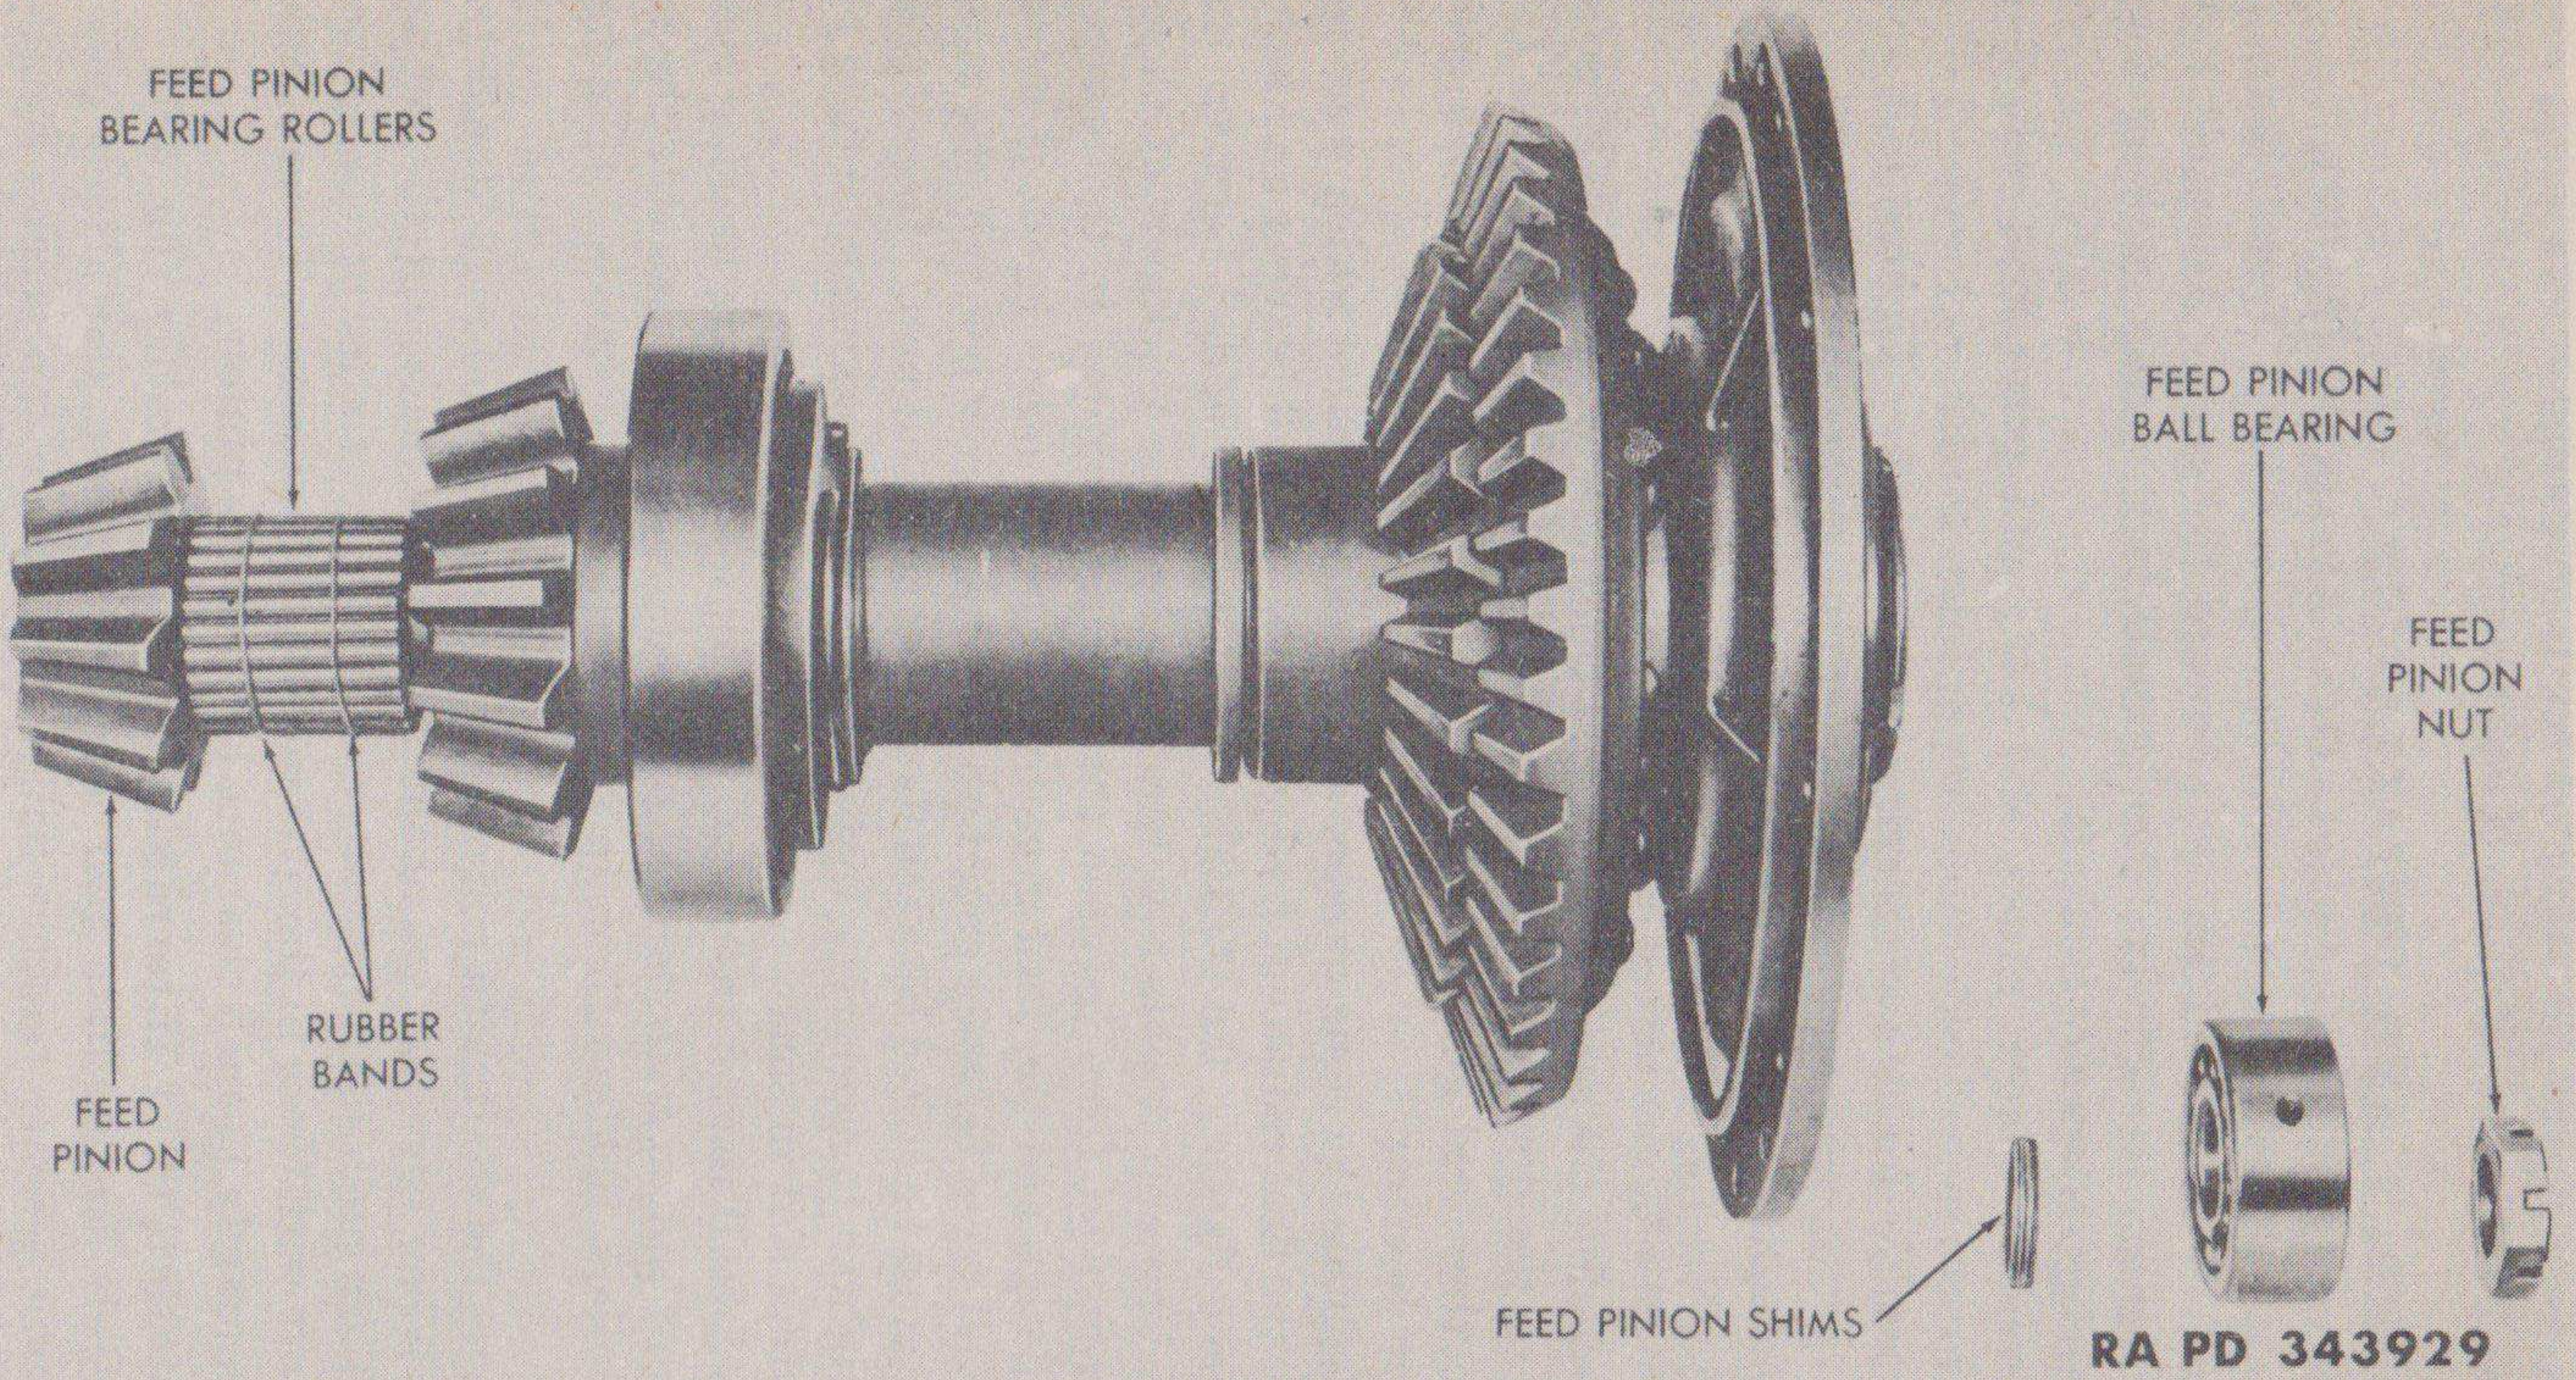
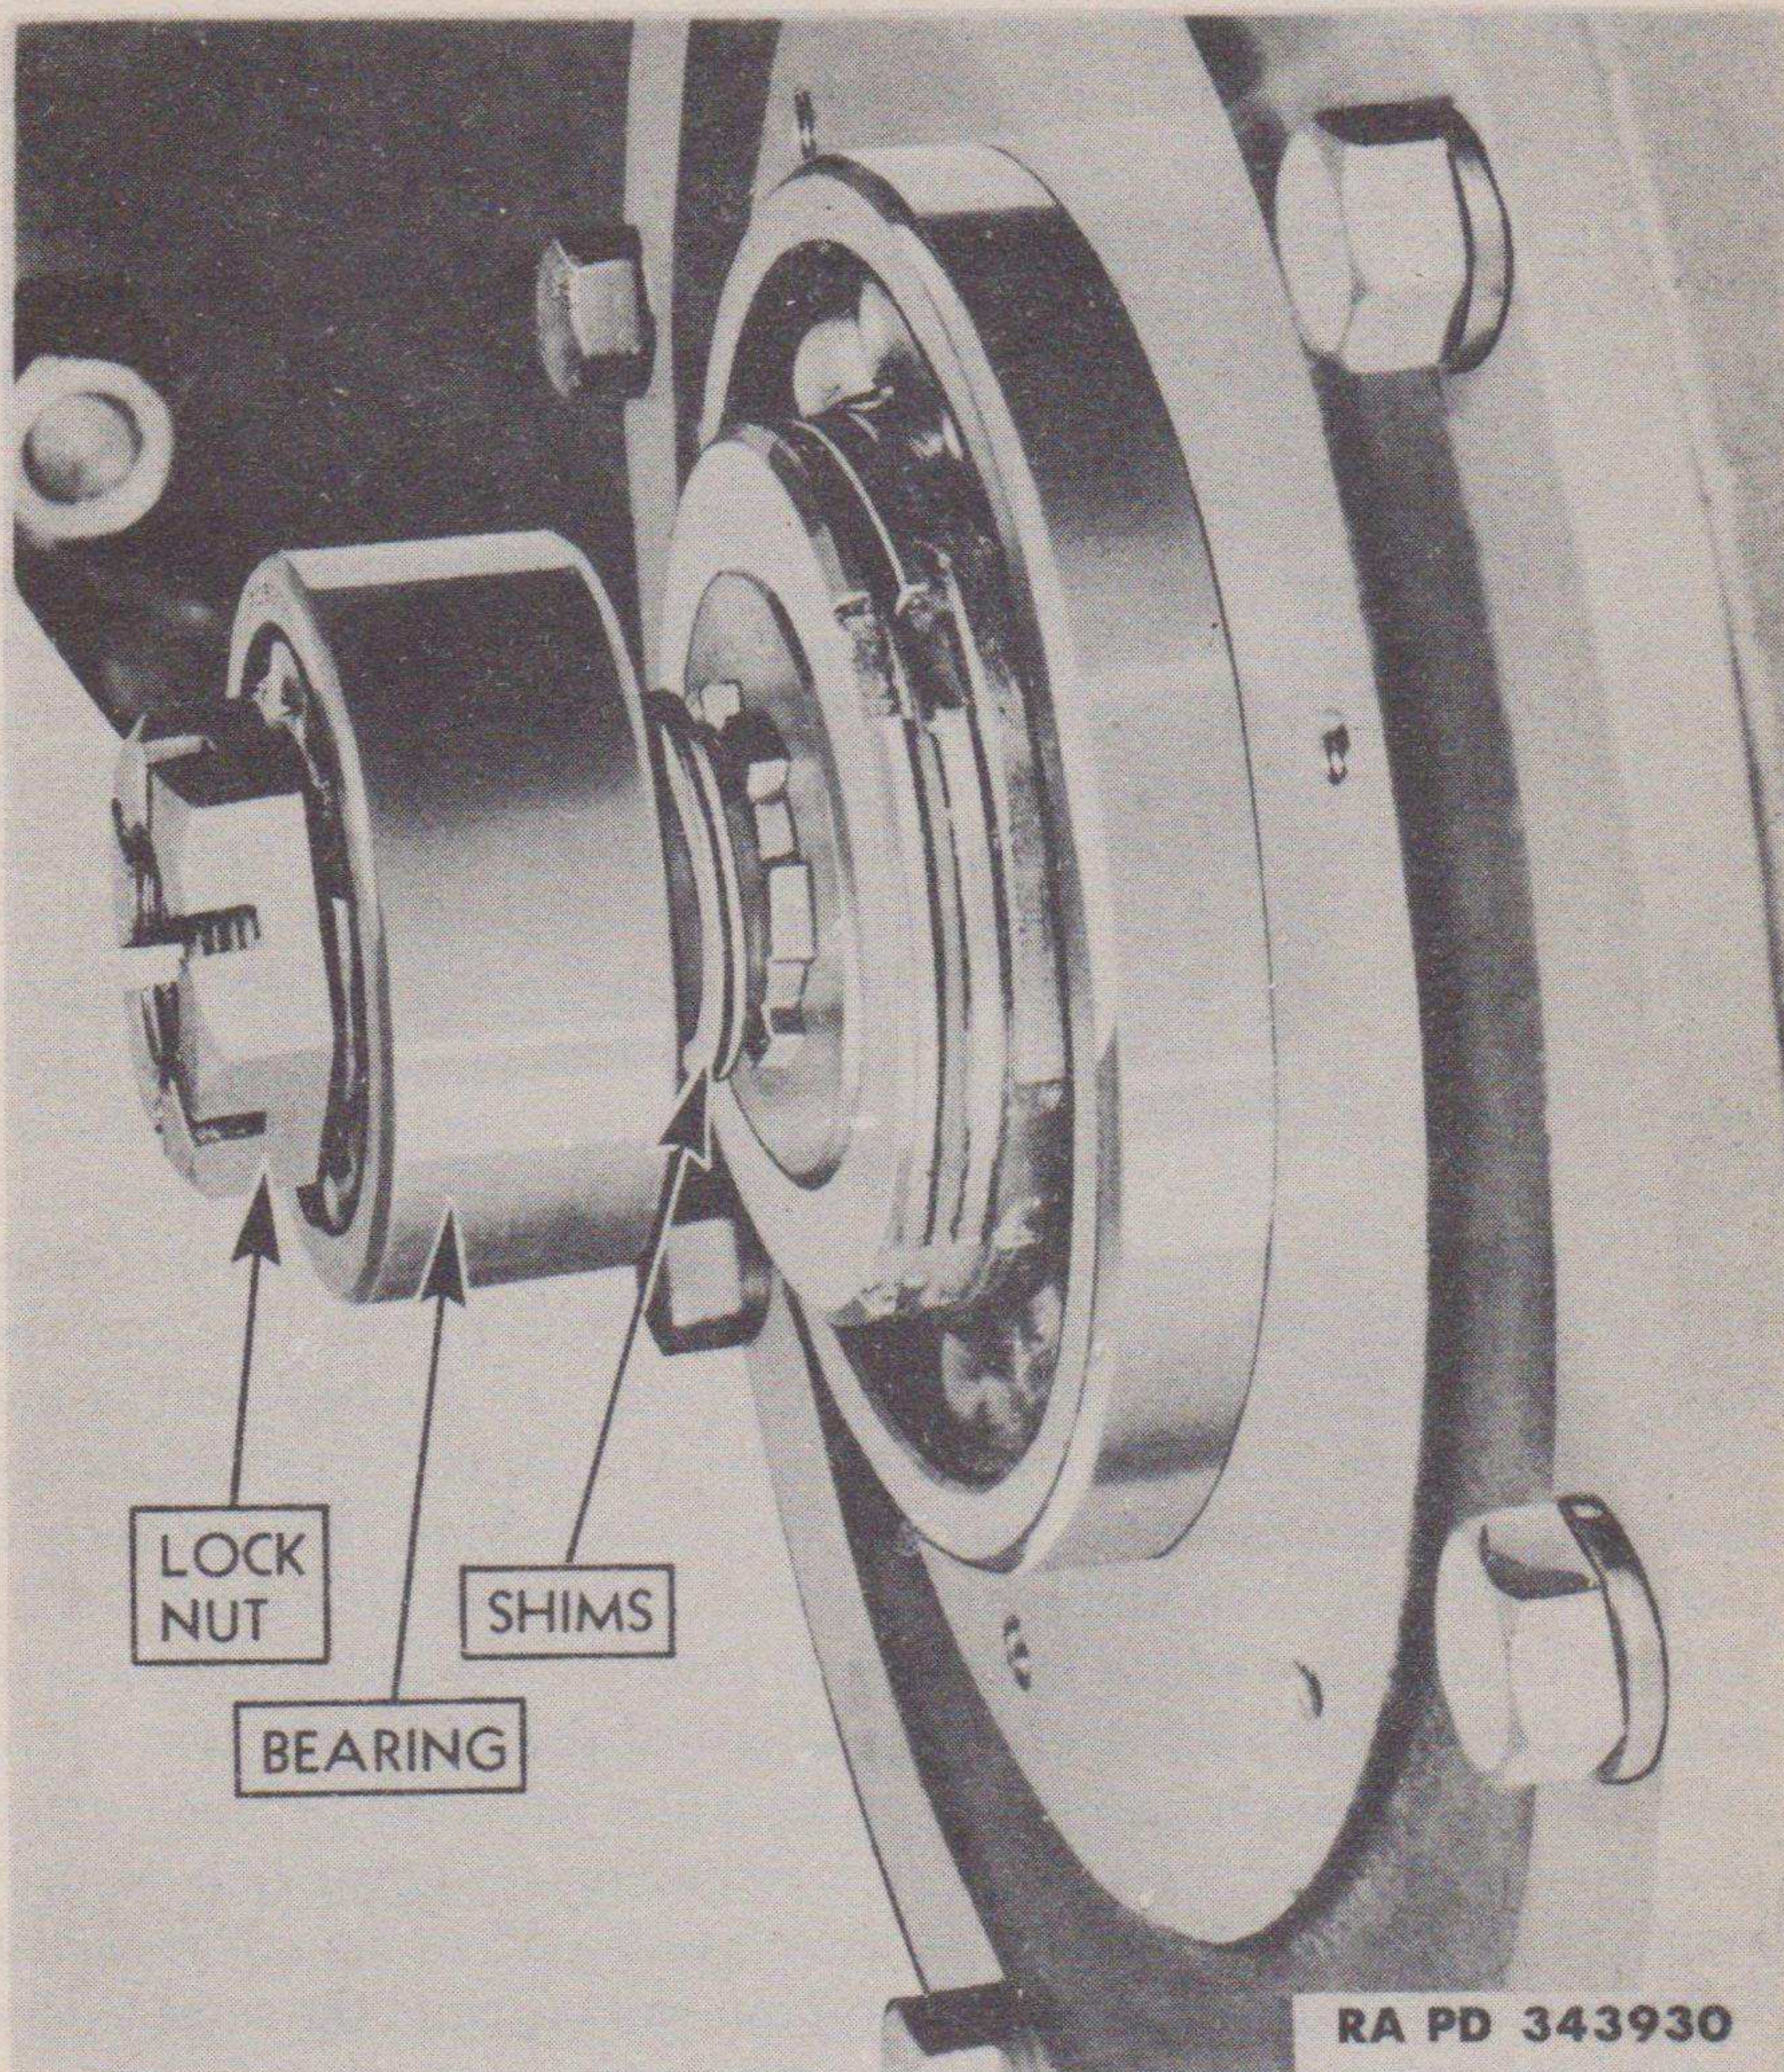

Figure 67—Second Reduction Feed Pinion Installation.
Figure 68—Second Reduction Feed Pinion Shim Adjustment
(5) Assemble the same number and thickness of shims which were removed in the double-row bearing bore in the hub. Assemble the first reduction feed gear and hub on the first reduction drive gear double-row bearing.
(6) Assemble the same number and thickness shims which were removed on the first reduction feed gear hub. Install bearing and bearing retainer flange. **CAUTION:** If shims are added between the feed gear hub and double-row bearing, the same thickness of shims must be removed from between the bearing mounted in the bearing retainer flange and the feed gear hub. On the other hand, if shims are removed from between gear hub and double-row bearing, the same thickness must be added between flange bearing and hub. Install lock nut and tighten it securely. Install lock spring, making sure tang on spring enters slot in shaft.
(7) To install second reduction feed pinion, lubricate bearing area just back of pinion with general-purpose grease and assemble the 24 bearing rollers, holding them in place with rubber bands. (See fig. 67.)
(8) Start the shaft with roller bearings into second reduction drive pinion. When bearings are about halfway in place, cut the rubber bands. Then push shaft into place, making sure to line up the splines on the shaft with those in the first reduction feed gear. There should be approximately $\frac{1}{8}$ -inch clearance between the pinions.
b. Installation of Intermediate Gear Assembly (fig. 68).
(1) Install intermediate gear assembly in case and attach intermediate case bearing retainer flange with three cap screws equally spaced.
(1) **SECOND REDUCTION FEED PINION AND FEED IDLER GEAR.** Check backlash between second reduction feed pinion and gear; this backlash should be from 0.010 to 0.015 inch. If the backlash is not within the above limits, it may be adjusted by adding or removing shims between shoulder on pinion shaft and double-row bearing. (See fig. 68.)